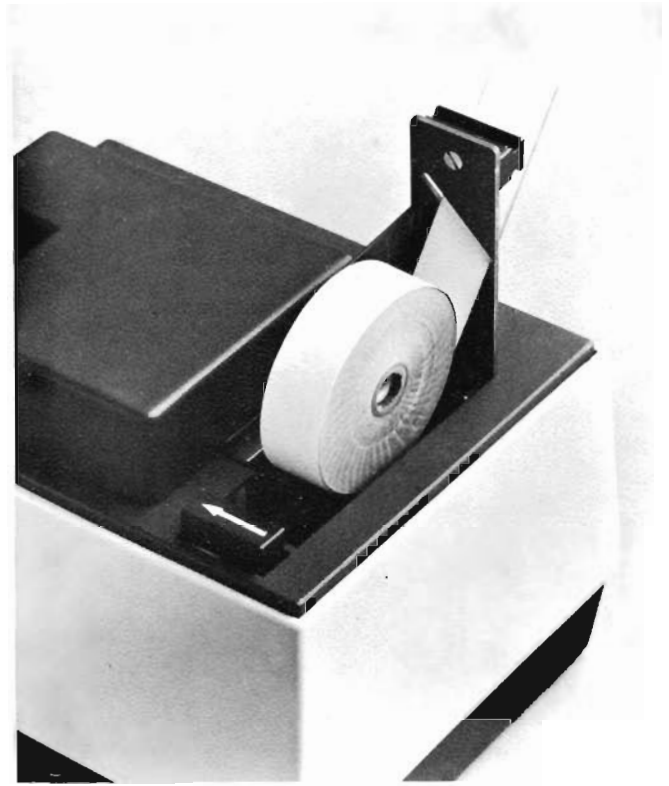

Fig. 2 Hub raised to accept new paper tape coil
Fitting a new tape coil to the raiseable hub is very easy (Fig. 2). When the pushbutton marked with an arrow is depressed the tape can be moved to its feed position, and the strip printer will be ready to receive new information.
- When the tape feed pushbutton, indicated by arrow in Fig. 2, is depressed, the end-of-tape sensor pin is moved down out of the tape pathway, the feed mechanism starts and a new tape can be fed in between the guides. Then the printer is ready to receive new information.